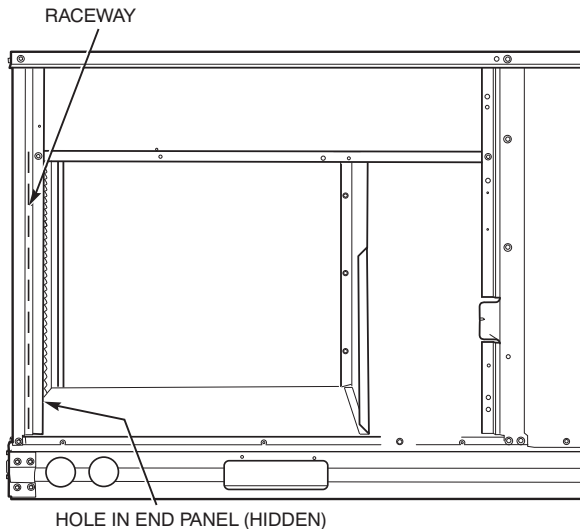

Fig. 28 — Field Control Wiring Raceway
Pass the thermostat control wires through the hole provided in the corner post; then feed the wires through the raceway built into the corner post to the control box. Pull the wires over to the terminal strip on the upper-left corner of the Controls Connection Board. See Fig. 28.
2. Feed wires through the raceway built into the corner post (see Fig. 28) to the 24-v barrier located on the left side of the control box. The raceway provides the UL-required clearance between high-voltage and low-voltage wiring.